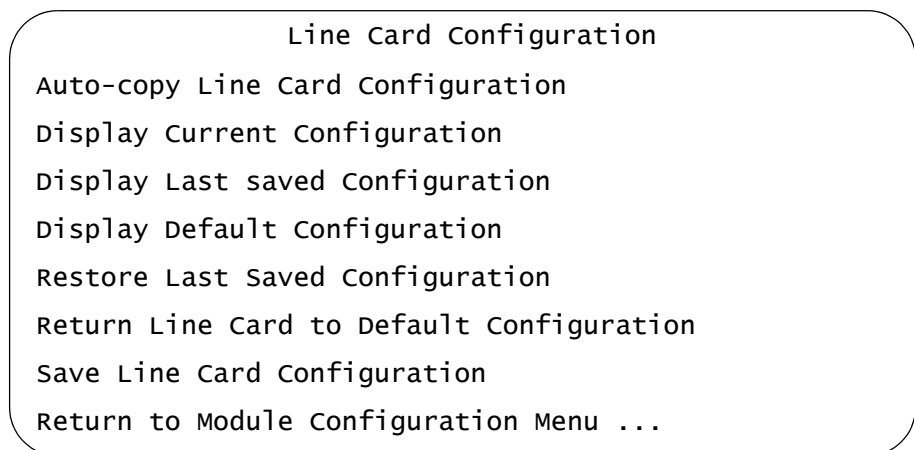

Figure 72. Line Card Configuration Menu
3. Select **Line Card Configuration** to display the menu in Figure 72.
3. Select **Line Card Configuration** to display the Line Card Configuration Menu in Figure 72 on page 183.